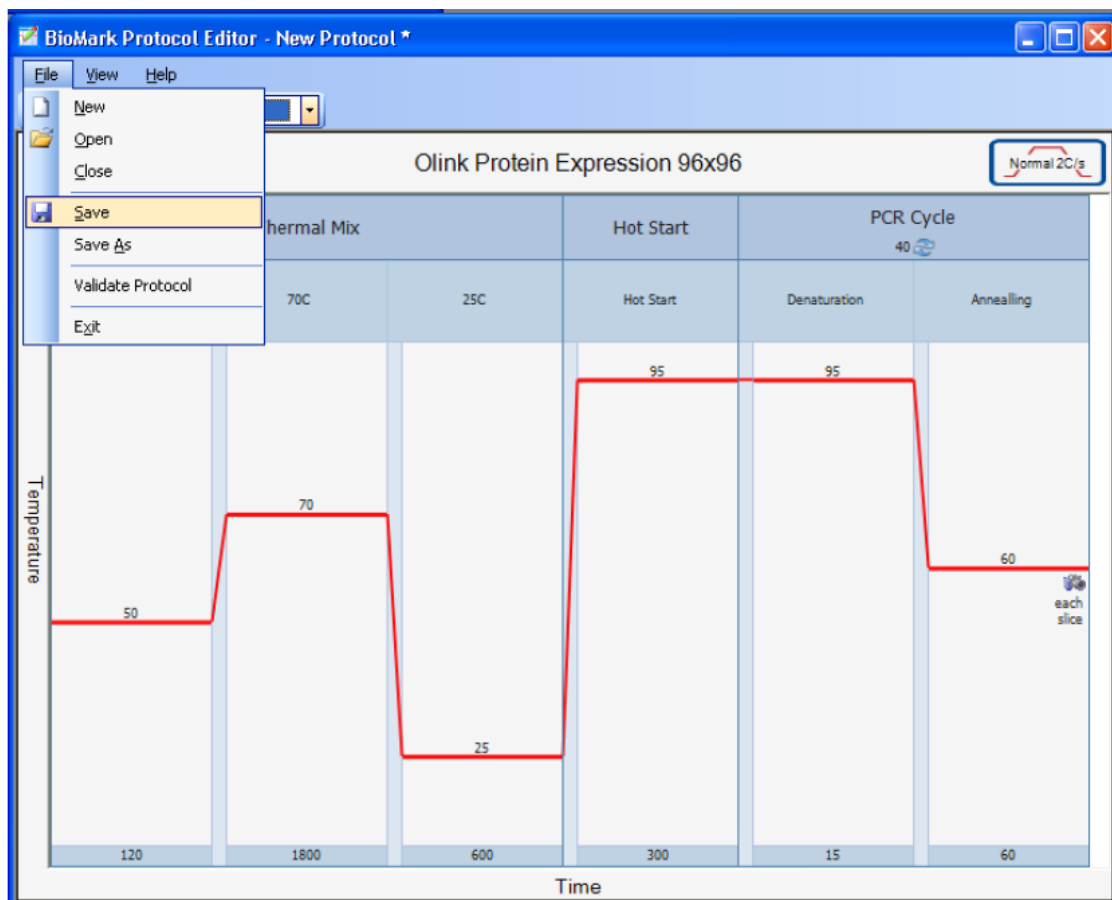

Figure 5 Olink Protein Expression 96x96 Program
5.4.20. Select the “Olink Protein Expression 96x96.pcl” protocol from the Olink folder in desktop. Verify the protocol according to Figure 5. Then “Next”